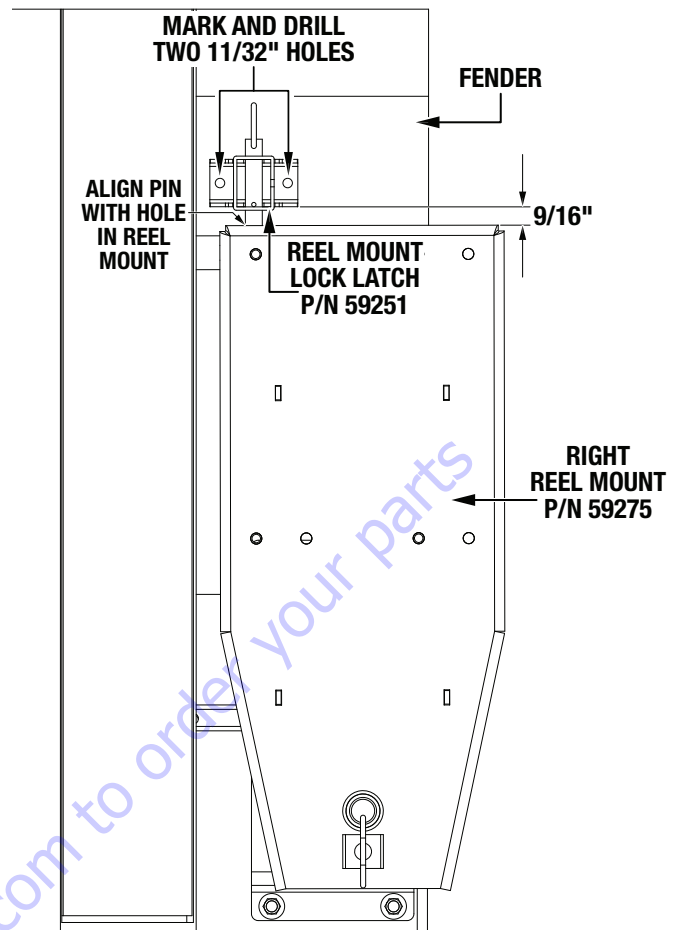

Figure 25. Drill Reel Mount Lock Latch Holes
- Place the reel mount lock latch (P/N 59251) onto the fender 9/16-inch from the end of the right reel mount (P/N 59275). Align the pin in the center of the reel mount lock latch with the hole in the reel mount. See Figure 25.
- Make sure the reel mount (P/N 59275) swings out freely without hitting the reel mount lock latch (P/N 59251), then mark the two lock latch hole positions on the right fender with a scriber or equivalent tool. See Figure 25.
- Drill two 11/32-inch holes into the top of the fender (Figure 25).